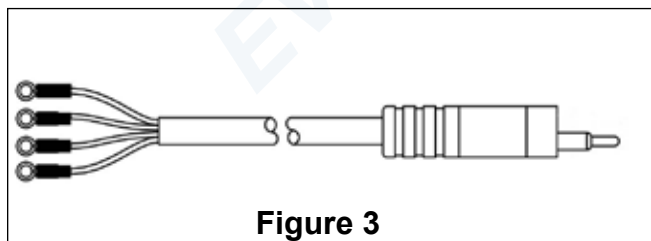
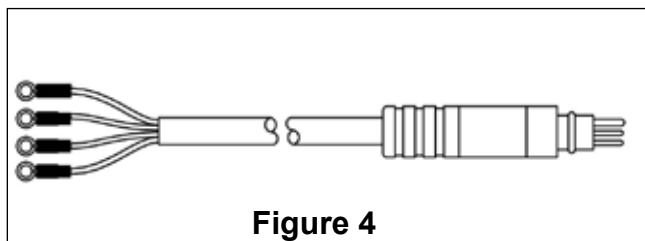

Figure 3
Figure 4
3. Connector cable assembly is available with Hi-Use (84) (*Fig. 3*) or Marsh Marine (85) (*Fig. 4*) connector.